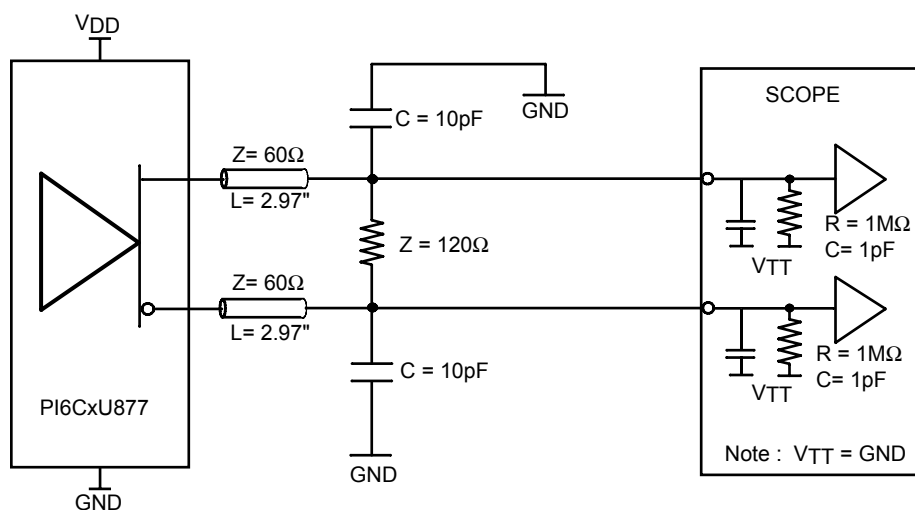
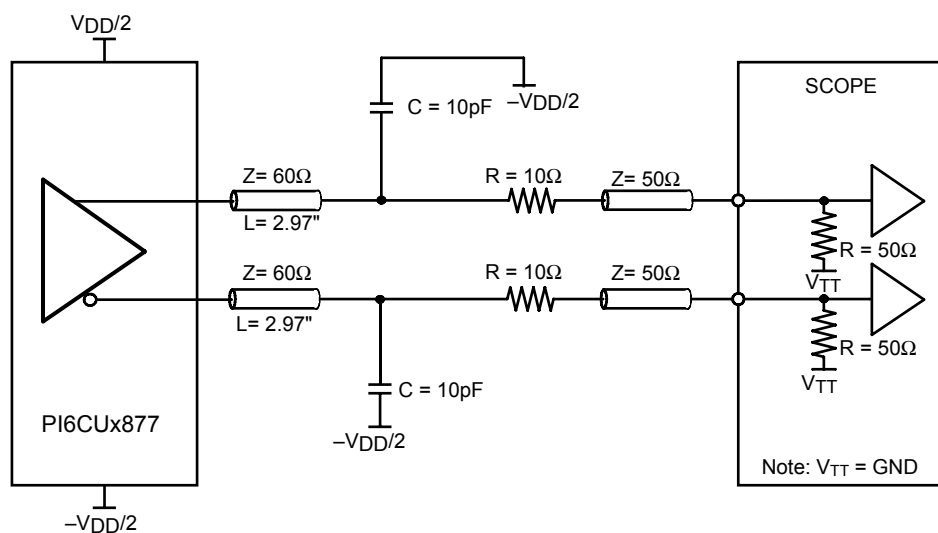

Figure 2. Output Load Test Circuit 1
Figure 3. Output Load Test Circuit 2
15. There are two terminations that are used with the above ac tests. The load/board in Figure 2 is used to measure the input and output differential-pair cross-voltage only. The load/board in Figure 3 is used to measure all other tests. For consistency, equal length cables should be used.